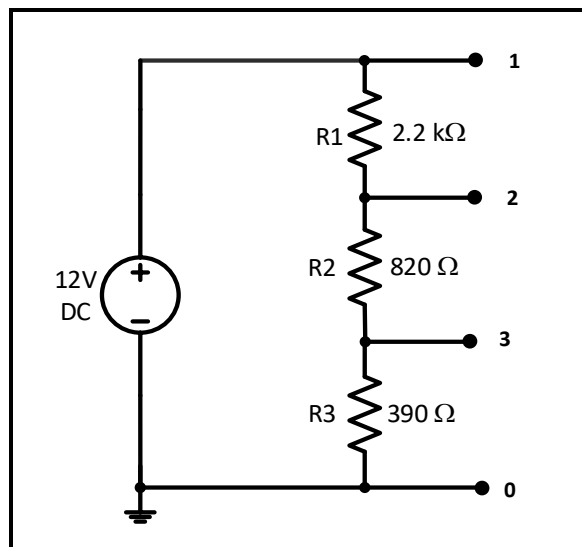

Figure 3.5
1. Simulate the circuit of Figure 3.5 using PSPICE to find the voltages V_{1-2} , V_{2-3} , and V_{3-0} .
1. For the circuit of Figure 3.5: